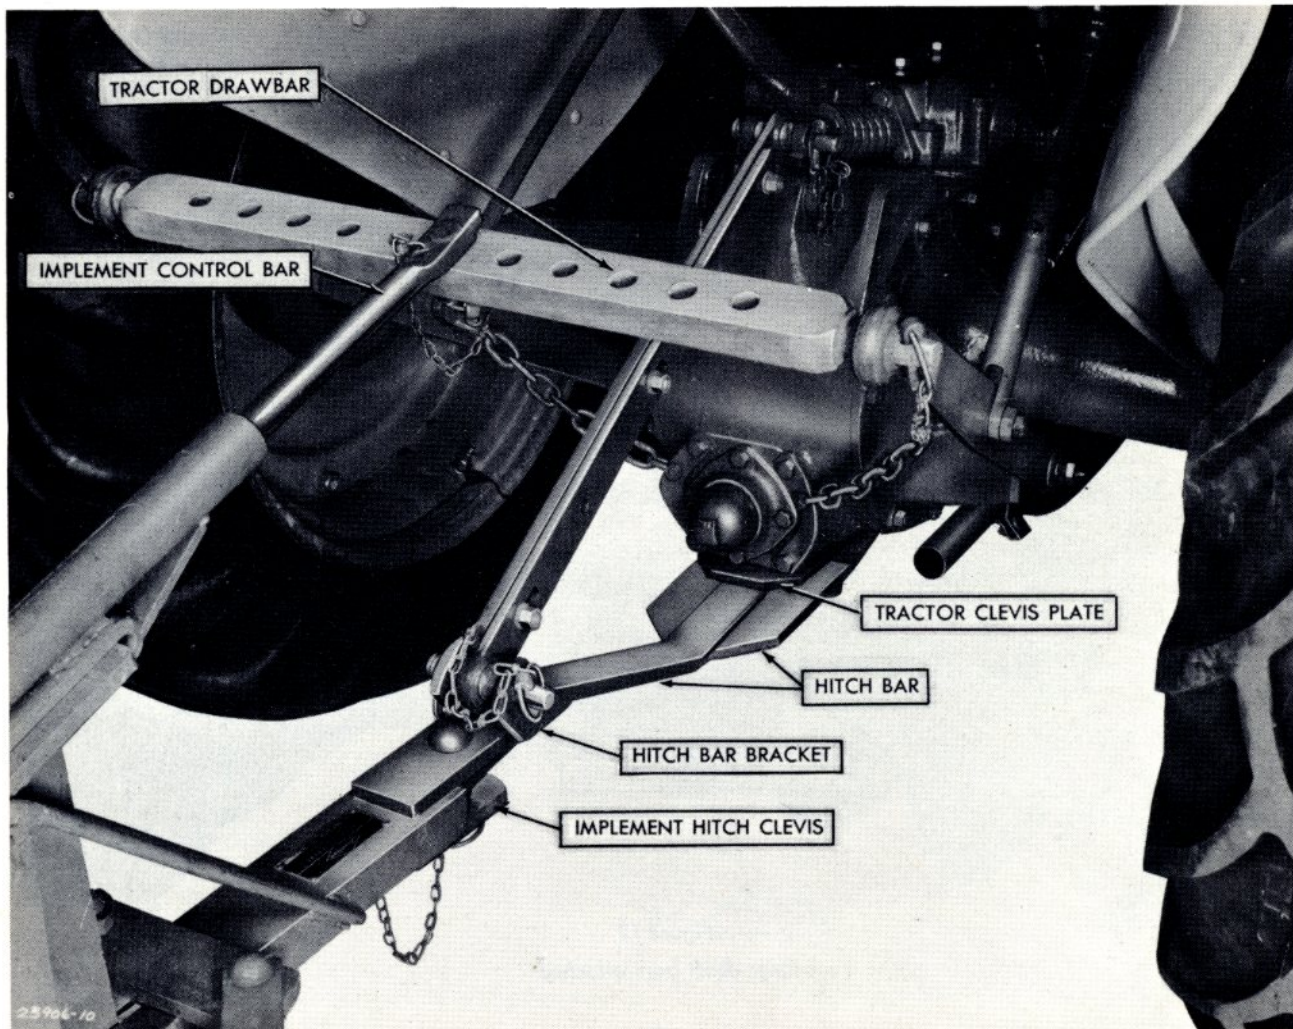

Figure 13
Step 2: Attach tractor top link to hitch bar bracket and secure with linch pin. (See Figure 13).
Step 3: Fasten tractor cross drawbar to tractor lower links and secure with linch pins. (See Figure 13).
Step 4: Back tractor into position and secure hitch bar to implement hitch clevis with clevis pin and linch pin. (See Figure 13).
Step 5: Attach implement control bar by inserting the welded pin through center hole of tractor drawbar and secure with linch pin. (See Figure 13).